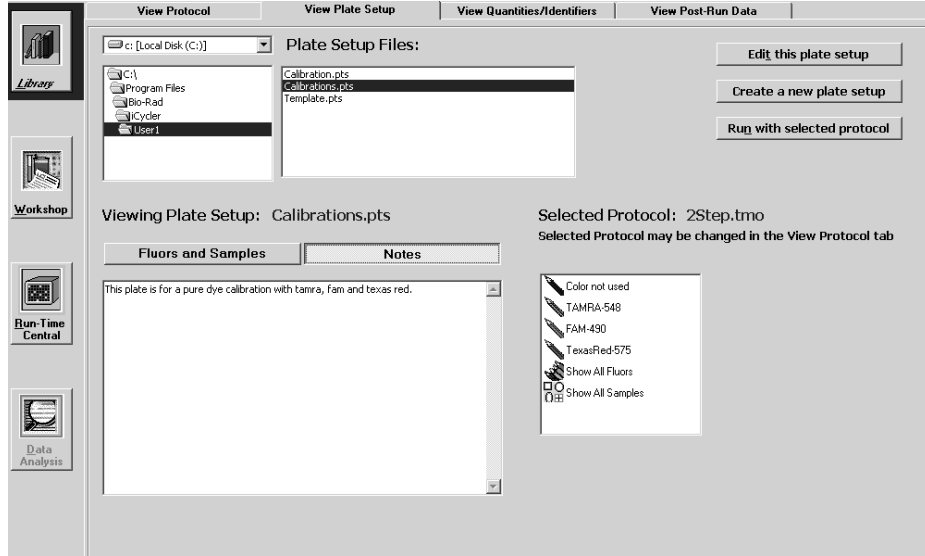

Fig. 4.3. Library / View Plate Setup window, Notes view.
- **Notes:** Displays any notes written about the plate setup (see Figure 4.3).